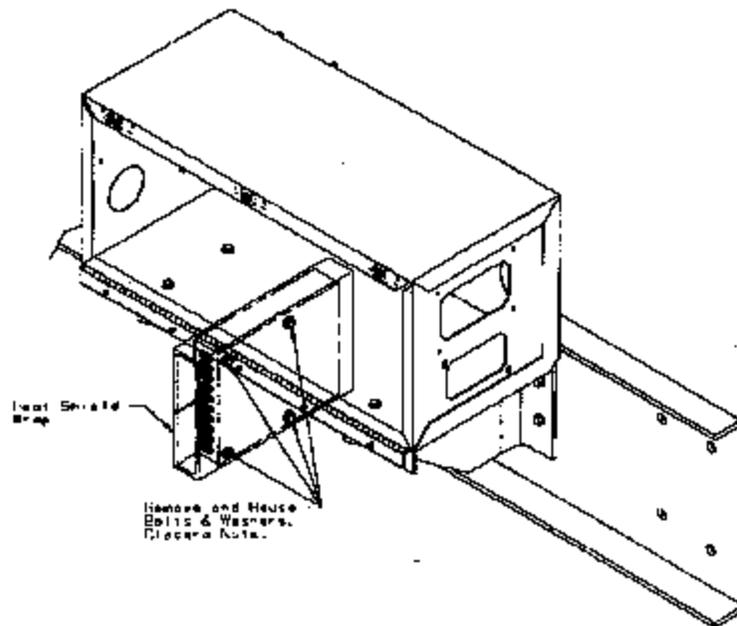

Figure 2
* On the MVP-ER, a heat shield is wrapped around the unit to protect it. This heat shield **must** be removed and wrapped around the new unit. See Figure 2.